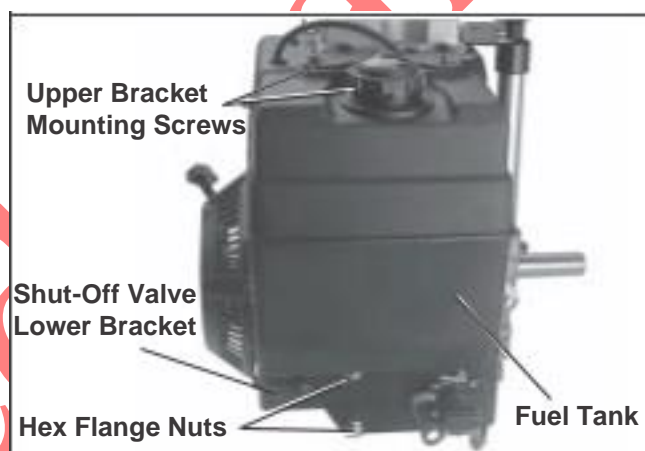

Figure 9-12. Removing Fuel Tank.
2. Remove hex flange nuts from lower bracket and hex flange screws from upper bracket of fuel tank. See Figure 9-12.